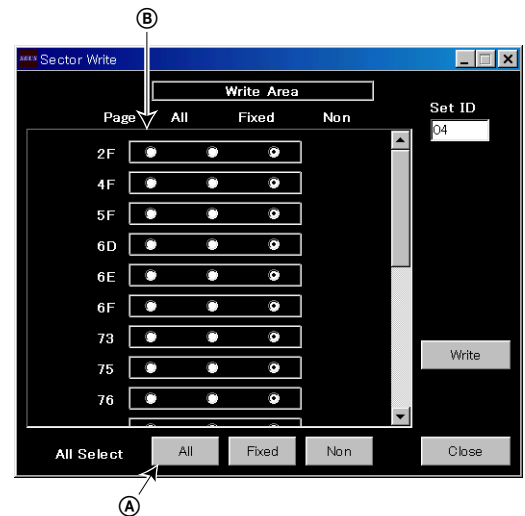

Fig. 6-1-54
- 4) Click **All** of the ALL SELECT buttons to select all pages. (Fig. 6-1-54. **A**)
- 4) Click "All" of the option buttons of the target page. (Fig. 6-1-54. **B**)